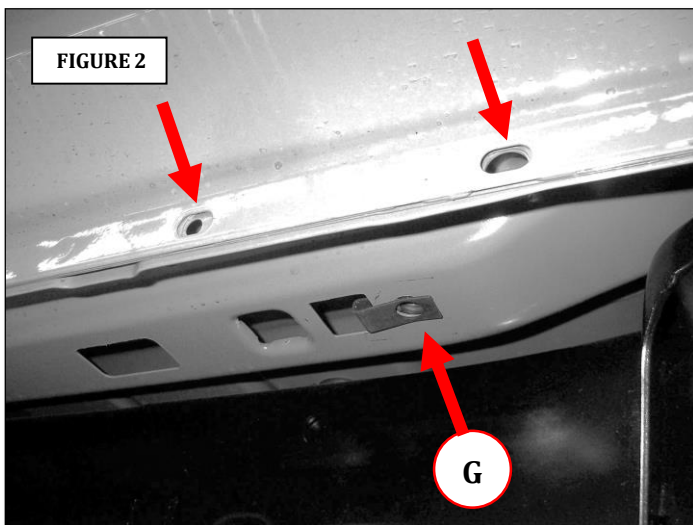

FIGURE 2
Step-1 Begin the installation on the passenger side. Starting at the front of the vehicle, locate the holes in the body pinch mold and in the underside of the body, (FIGURE 2).
Step-2 Install (1) M8 Clip-Nut in the underside of the body with the threaded end centered over the round hole, (FIGURE 2). **Note:** Some vehicles may have a M8 threaded hole in the underside of the body and will not require installation of the M8 Clip-Nut, (FIGURE 3).